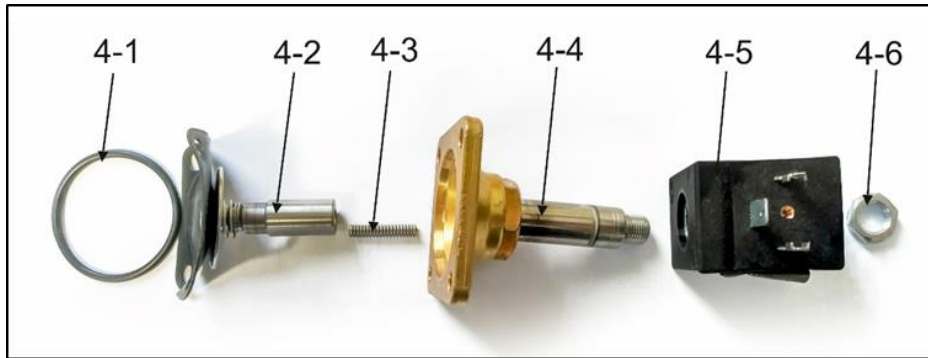

Fig. 41: Solenoid valve assembly
- Unscrew the 1 screw from the valve connector (1).
- Disconnect the valve connector (2).
- Unscrew the 4 screws (3).
- Remove the solenoid valve (4).
- Install the solenoid valve (Fig. 41).
- Install the new solenoid valve using the 4 screws (3) and use a thread locking adhesive on the threads of the screws (such as Loctite 243).
- Reattach the solenoid valve connector and attach with a screw (1).